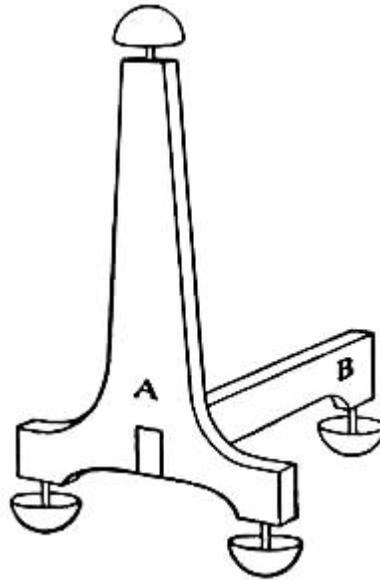

FIG. 95.—Andiron.
**Andirons** should, of course, accompany the fire-place. These may be made as shown in Fig. 95. They consist of two pieces of cigar-boxes cut the shape of *A* and *B* (*A* an inch and one-half by an inch and one-quarter, and *B* an inch and one-half long), with the end of *B* glued in a slot cut in the lower part of *A*. The feet and the top of *A* and the foot of *B* are small brass-headed upholstering-tacks driven into the wood, which give the andirons a trim appearance. Paint the strips black.